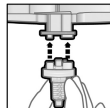

Fig. 2
3. Place one of the enclosed Dynamix Mixing Tips over the outlets of the cartridge (Fig. 2).